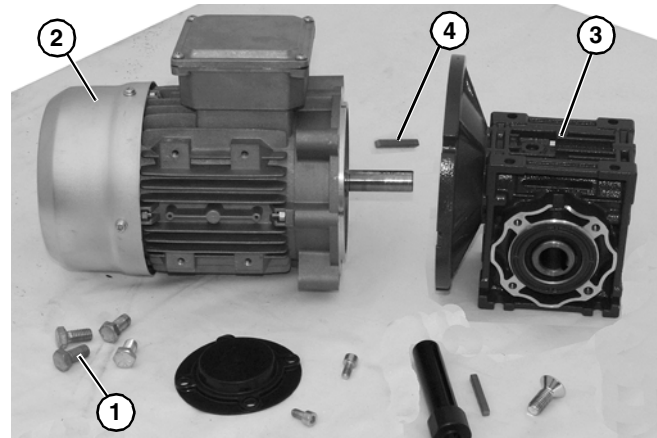

Figure 29
7. Remove four screws (**Figure 29, item 1**). Detach motor (**Figure 29, item 2**) from gear reducer (**Figure 29, item 3**). Retain shaft key (**Figure 29, item 4**).
8. Apply anti-seize to motor shaft before assembling to gearbox. With key (**Figure 29, item 2**) in keyway, slide motor (**Figure 29, item 2**) and gear reducer (**Figure 29, item 3**) together. Install screws (**Figure 29, item 1**) and tighten.
4. Apply anti-seize to motor shaft before assembling to gearbox. With key (**Figure 29, item 4**) in keyway, slide motor (**Figure 29, item 2**) and gear reducer (**Figure 29, item 3**) together. Install screws (**Figure 29, item 1**) and tighten.